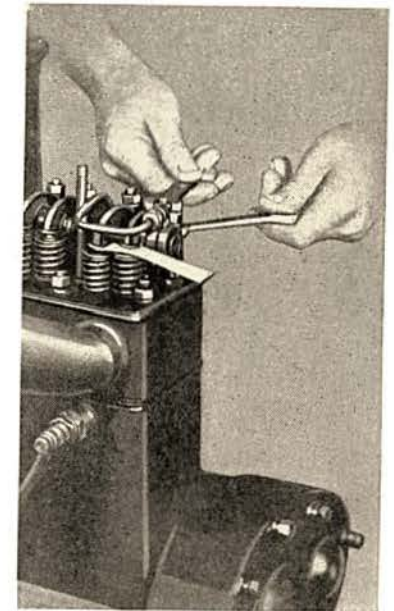

Figure 22
1. Valve Clearance — Remove the cylinder head cover and examine the clearance between valve stem and rocker arms. This clearance should be .004 to .006 of an inch. When making this test, be sure that the valves have seated completely. (See Fig. 22.)
Then by turning the lower nut on the rocker arm to the right or left the clearance can be decreased or increased. Be sure to lock the adjustment securely with the lock nut after adjustment is made. To do this, hold the adjustment nut with a wrench while the top nut is tightened. (See Fig. 22.)